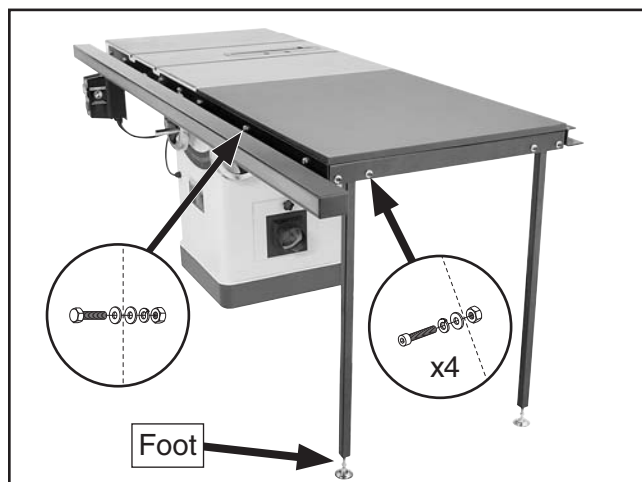

Figure 26. Model G0691 extension table installed.
1. Remove the six M8-1.25 x 30 hex bolts, (12) 8mm flat washers, six 8mm lock washers, and six M8-1.25 hex nuts from the extension table.
4. Use the four M8-1.25 x 20 cap screws, 8mm lock washers, flat washers, and M8-1.25 hex nuts to secure the legs to the end of the extension table, as shown in **Figure 26**.